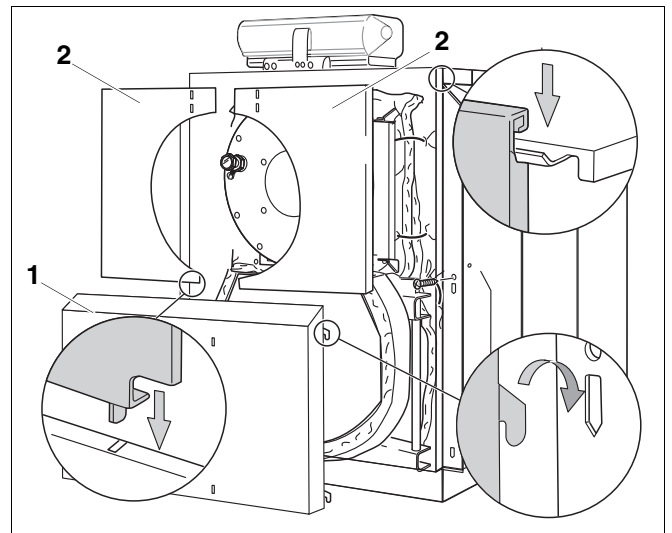

Fig. 31 Facing panels
- Feed lower front panel with the folded edge behind the plinth panels and hook into the slots on the folded edge of the side panel, using the 2 hooks (Fig. 31).